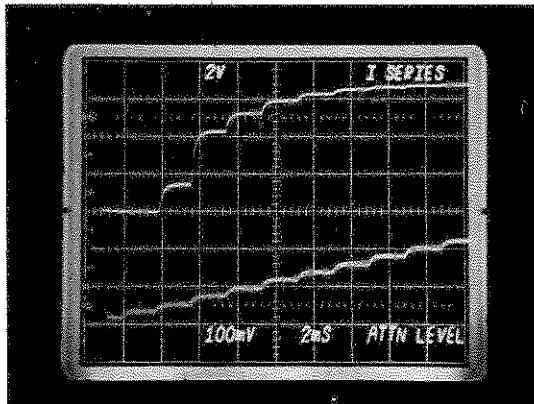

FIGURE 6-5
- (1) Connect an 0.47uf capacitor across A203C2.
- (2) Connect the Channel A 10X probe of scope to A203J1 pin 1 (Iseries). Connect Channel B 10X probe to A203TP17.
- (3) Remove and ground cable to A204J4.
- (4) Connect jumper between A203TP14 and TP16.
- (5) Select a value for A203R18 so the first two or three steps of the Attenuator Control Ramp have no effect upon Iseries (see Figure 6-5).
- (6) Remove jumper between A203TP14 and TP16. Remove capacitor. Reconnect cable to A204J4.
- (7) Apply a 0 dBm, 1.4 GHz CW signal to Band B input.
- (8) Press RESET switch. Increase signal level to the Band B input until the REDUCE SIGNAL light comes on. (Light should come on between +4 and +6 dBm. If it does not, select a new value for A203R17, and repeat steps (7) and (8) until it does.)